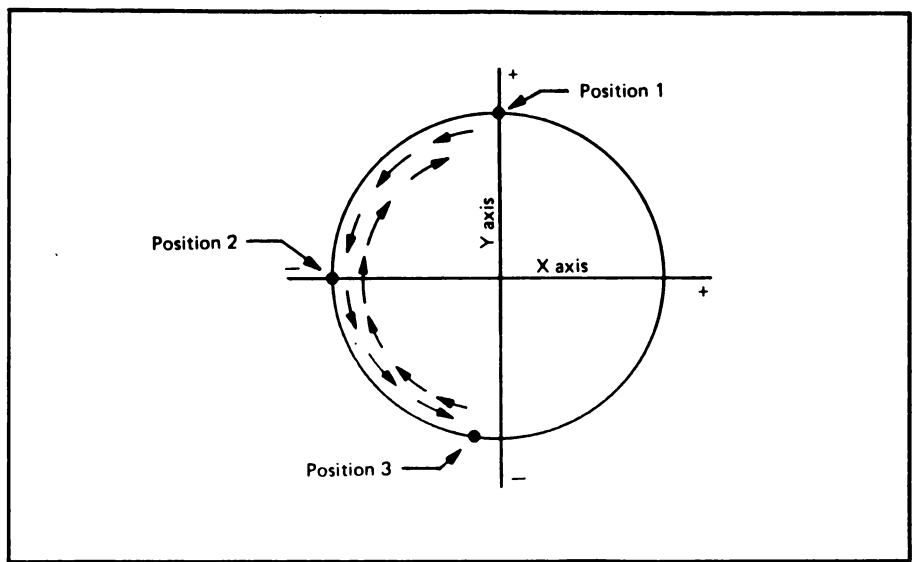

FIGURE 5.9 CYLINDER-000 STOP-ADJUSTMENT PATTERN
- (d) Hold down the servo-release switch (located at the top of the motherboard, to the left of J3) and manually turn the head positioner. The oscilloscope trace should be a lissajous figure of circular form as shown in figure 5.9 (since the almost-sinusoidal input-signals to the vertical and horizontal deflexion plates of the oscilloscope are of equal gain and frequency and 90° out of phase, they trace an approximate circle when allowed to pass through a full cycle)
- (e) Manually turn the head positioner fully-clockwise to retract the head carriage as far as possible and release the servo-release button. The cylinder pointer should indicate cylinder-000. Using the horizontal position knob on the oscilloscope, centre the dot on the top part of the oscilloscope Y-axis [see figure 5.9, (position 1)]
- (f) Hold down the servo-release button. With slight pressure, force the head positioner against its crash stop. The oscilloscope trace should move round the circle and stop just before position 2 of figure 5.9. (Some oscilloscopes will show this trace moving clockwise around the circle instead of counter-clockwise. To check, touch the X-plate lead on the +5 volt rail: if the oscilloscope trace moves to the right, the adjustment pattern should be the same as in figure 5.9.) If the trace moves to the left the lissajous figure will be reversed left to right
- (j) Transfer the load/run switch from LOAD to RUN and back to LOAD, several times. The trace should swing a maximum arc of $145^{\circ} \pm 35^{\circ}$ from the top Y-axis position to an equivalent position on the negative part of the Y-axis, travelling in a counter-clockwise direction (see figure 5.9, position 3). If it exceeds 180° , repeat the procedure from sub-section (c)